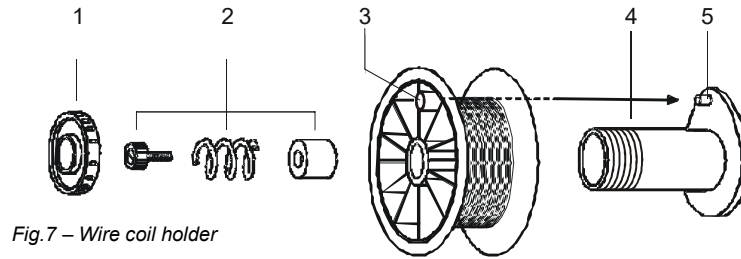

Fig.7 – Wire coil holder
- When positioning the wire coil on the coil holder (4-fig.7), it is necessary to verify the correct positioning of breaking hole (3-fig.7) on the spindle (5-fig.7) of the holder (4-fig.7) in order to maintain the breakage system operationally.
- After this, the wire coil breakage system must be regulated, actuating on the respective screw (2-fig.7). The rotation movement of the wire coil must stops at the same time as the motor.